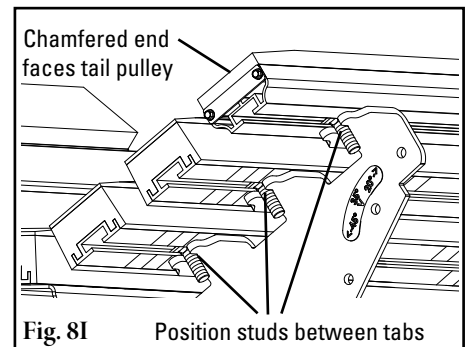

Fig. 8I Position studs between tabs
- 8I. Install bars to wing plates. Starting with the innermost bars, set the bars in place. Position the studs between the tabs in the wing assembly while confirming the chamfer of the bar is positioned facing the tail pulley (Fig. 8I). See below for bar assembly configuration based on bed model.